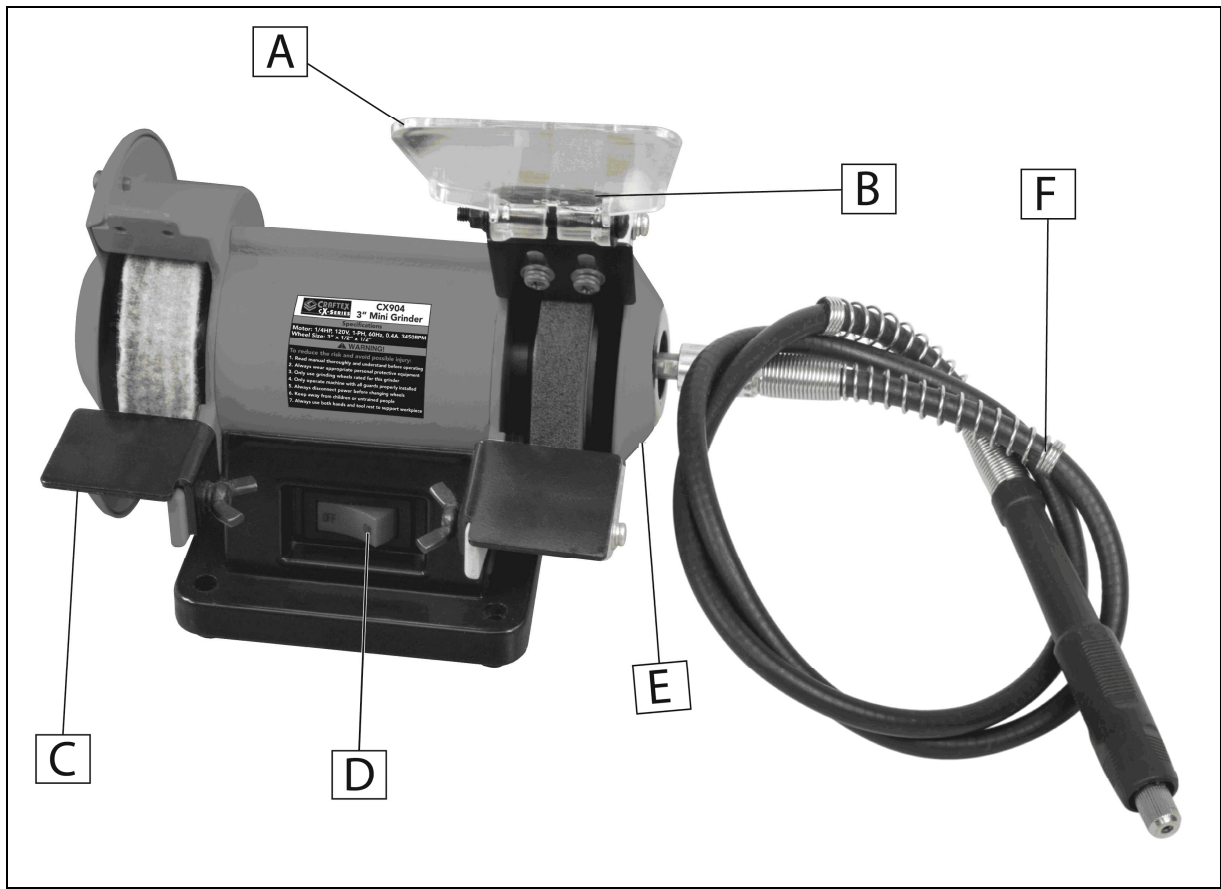

Figure 1
- 3.) Compare all the items from the carton with Figure 1. Make sure all items in the inventory are accounted for before throwing away carton and packaging materials.